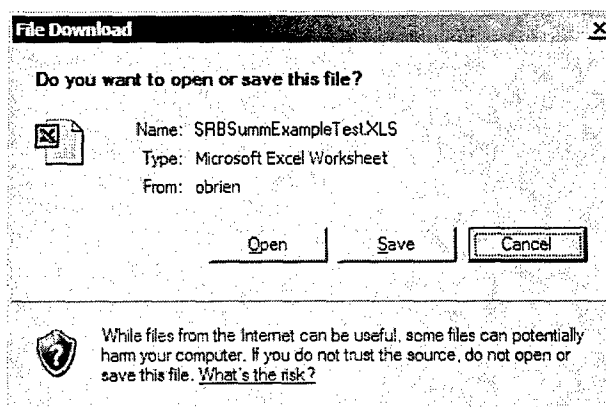

Figure 55. Export SRB Summary Report to Excel
4. You can export the SRB Summary report to a Microsoft Excel workbook by clicking the *Export to Excel* button at the top of the page. The Dialog Box displayed in Figure 55 shows that the workbook is automatically named using the convention *SRBSumm&Planname.XLS* (e.g., *SRBSummExampleTest.XLS*). You may either open the workbook directly or save the workbook to a local or remote (network drive).